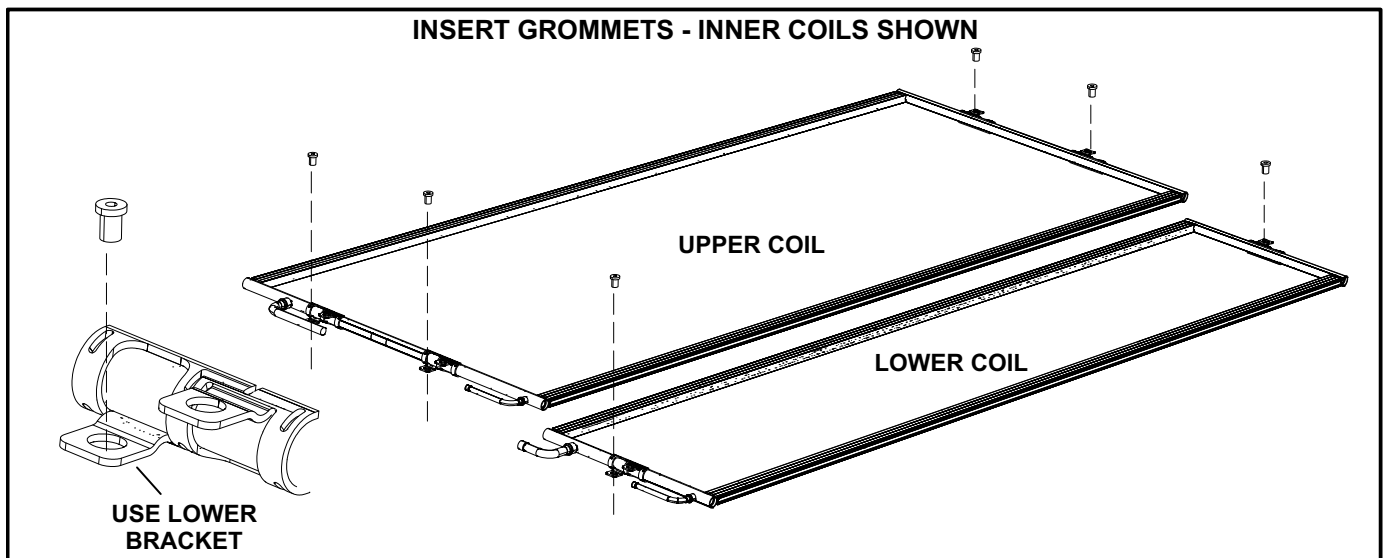

FIGURE 5
- 7- Install all twelve kit grommets in the replacement coil manifold brackets. See figure 5.